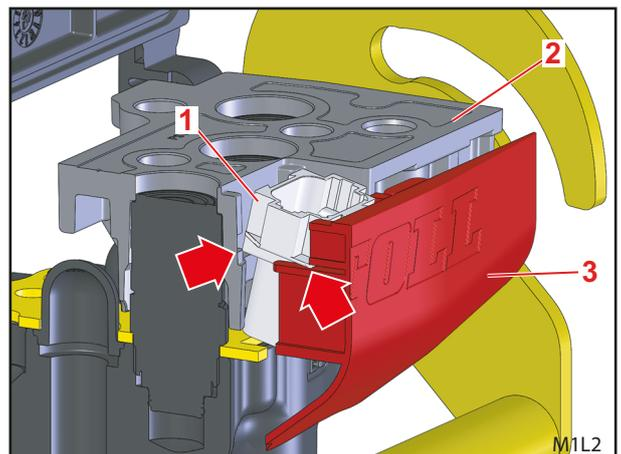

Fig. 14 Installing the Hydro-Fix lower part – Electric plug connector and cover
(6) Slide the Hydro-Fix lower part on the valve (not all the way down).
(7) Set the electric plug connector at a slight angle so that it slides into the guides and support plates (see arrows in Fig. 14) when you put the cover and the Hydro-Fix upper part together.
(8) Slide the cover on completely, and at the same time, gently press down on the Hydro-Fix lower part.
(9) Secure the Hydro-Fix lower part with the 5 screws M8x45.